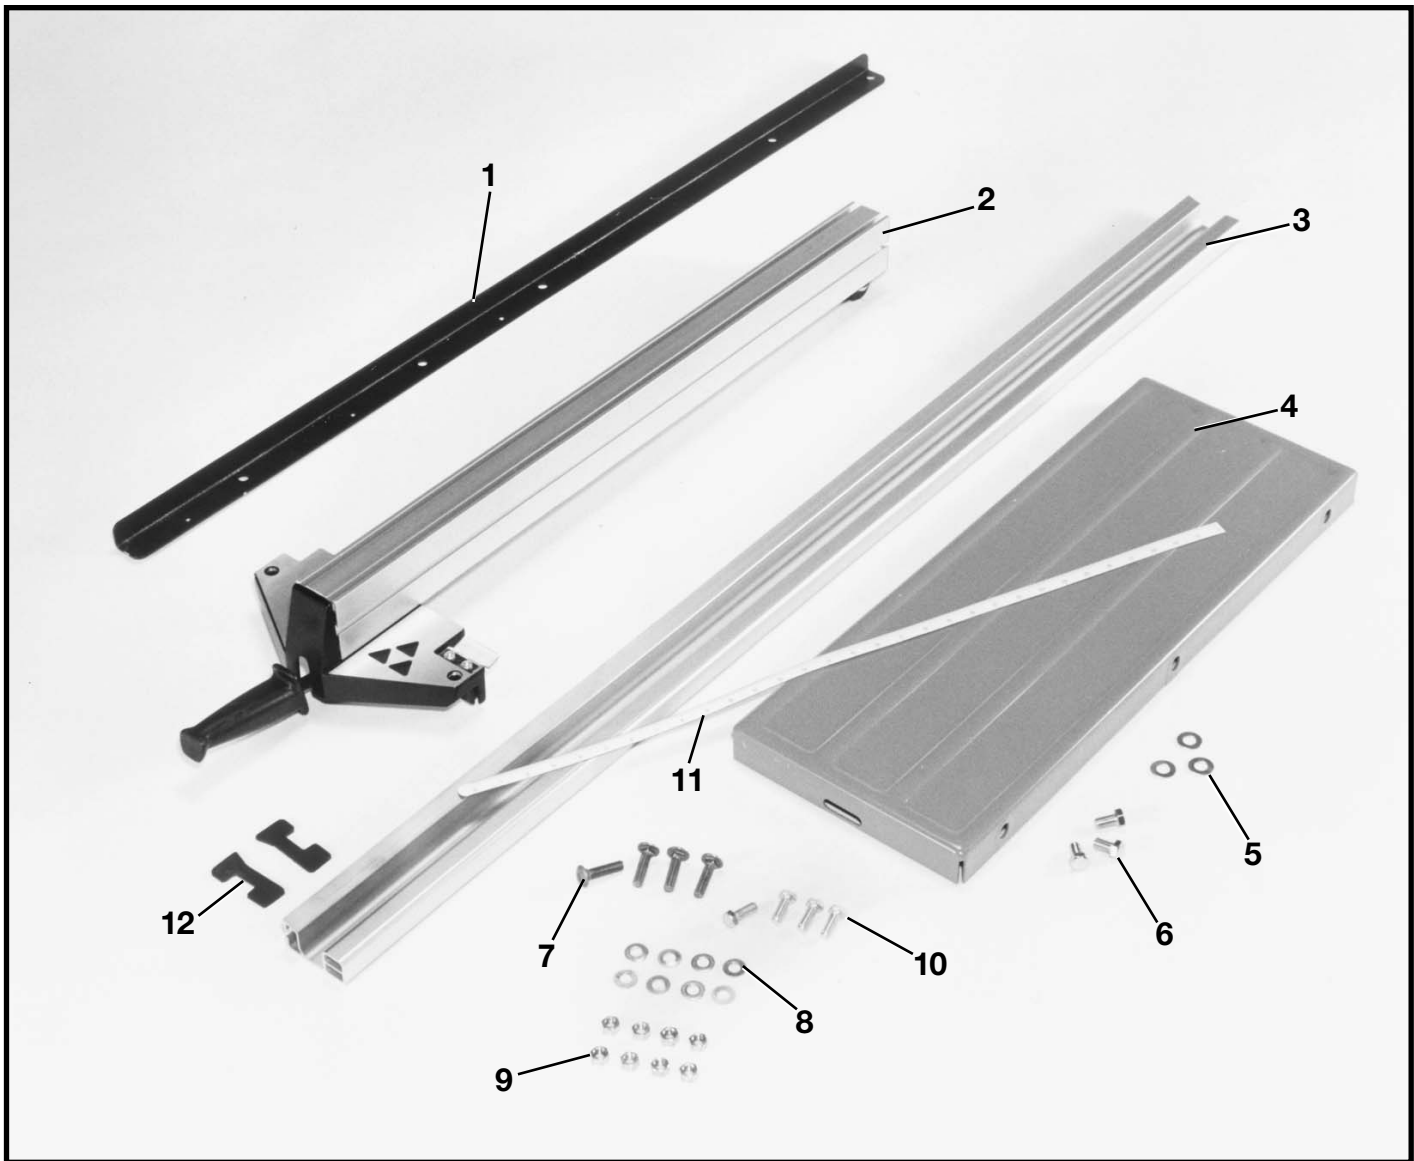
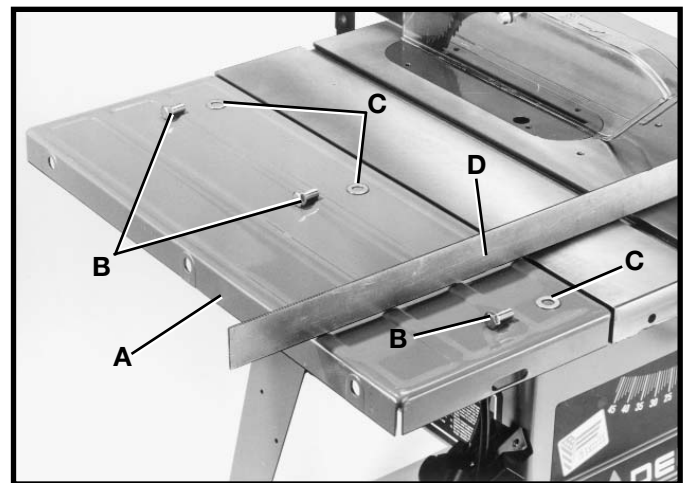
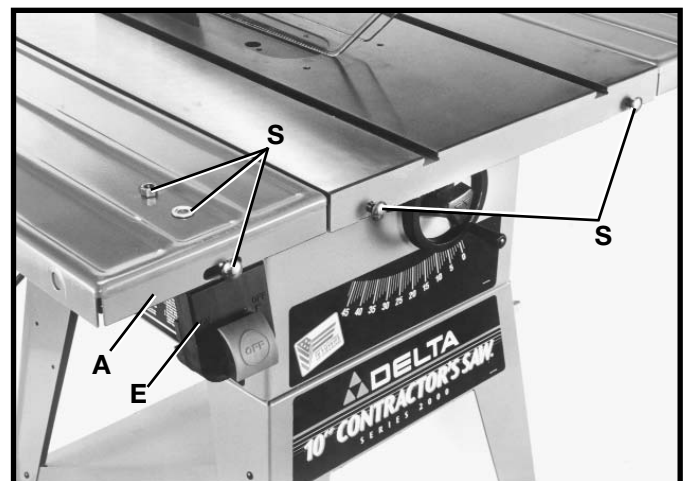

Fig. 2
Fig. 4
Fig. 5
1. Assemble extension wing (A) Fig. 4, to the saw table using three 7/16-20 x 3/4" screws (B) and flat washers (C) [same as (5 & 6) Fig. 2].
2. With a straight edge (D) Fig. 4, make certain the extension wing (A) is level with the saw table before tightening three screws (B).
3. Loosely assemble switch bracket (E) Fig. 5, to the rear of extension wing (A) and fasten with 3/8-16 x 1" long carriage head bolt through hole, then add flat washer, and hex nut (S) [same as (7,8 &9) Fig. 2].
1. Loosely assemble 1" long carriage head bolt, flat washer, and hex nut (S) Fig. 5 [same as (7,8 &9) Fig. 2], into the two pre-drilled holes in the saw table and extension wings. Place carriage bolts through holes, add flat washers then hex nuts.